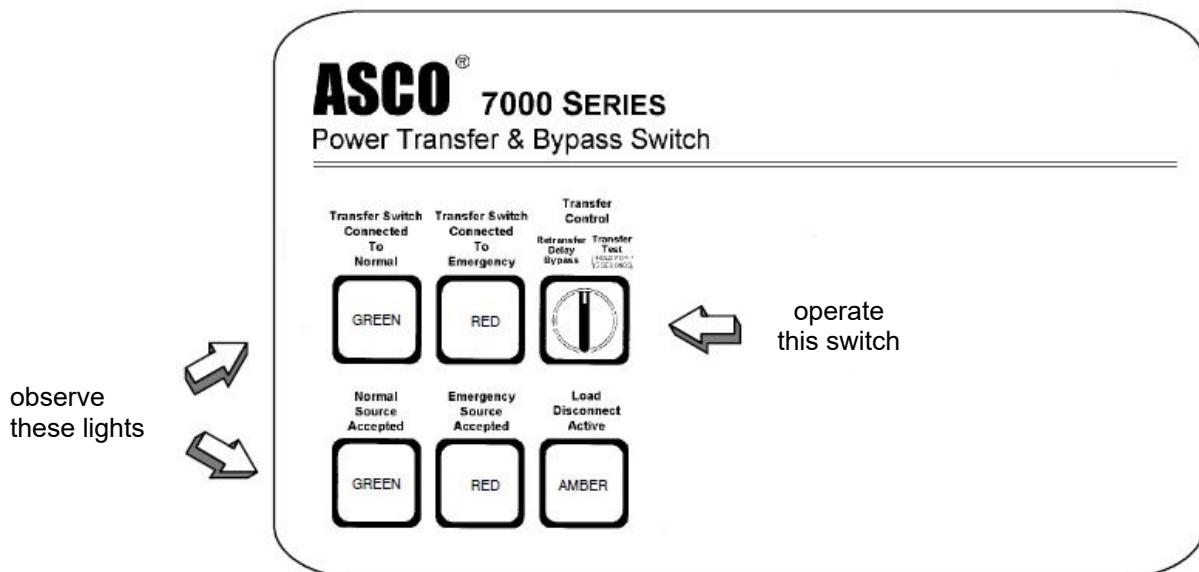

Figure 3. Standard controls and indicators.
2. Perform steps 1–5 at right. Observe the status lights. See Figure 3.